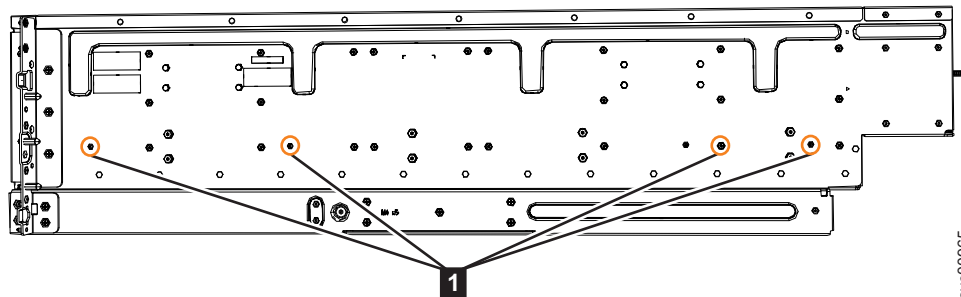

Figure 34. Screw locations to attach the inner rail to the enclosure
4. Use four M4 screws to attach the inner rail to the side of the enclosure. Figure 34 shows the screw locations.